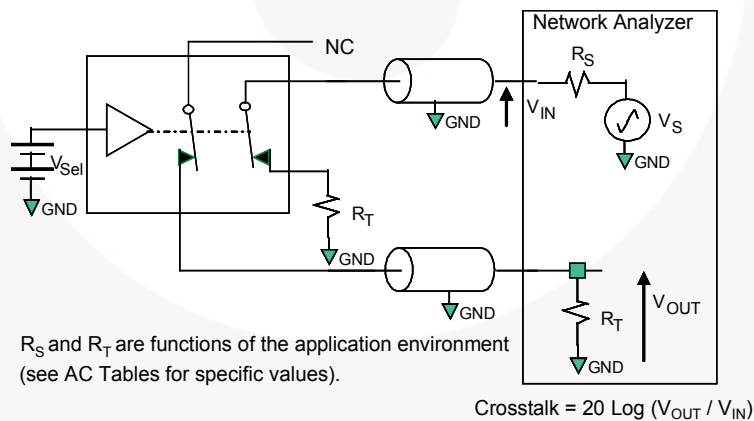

**Figure 10. Break-Before-Make Interval Timing**
| $t_{BBM}$      | Break-Before-Make (10)              | $R_L=50\ \Omega$ , $C_L=5\ \text{pF}$ , $V_{ID}=V_{MDV}=3.3\ \text{V}$ , $V_{USB}=0.8\ \text{V}$ , Figure 10           | 2.7 to 3.6   | 2.0                                            |      | 13   | ns   |